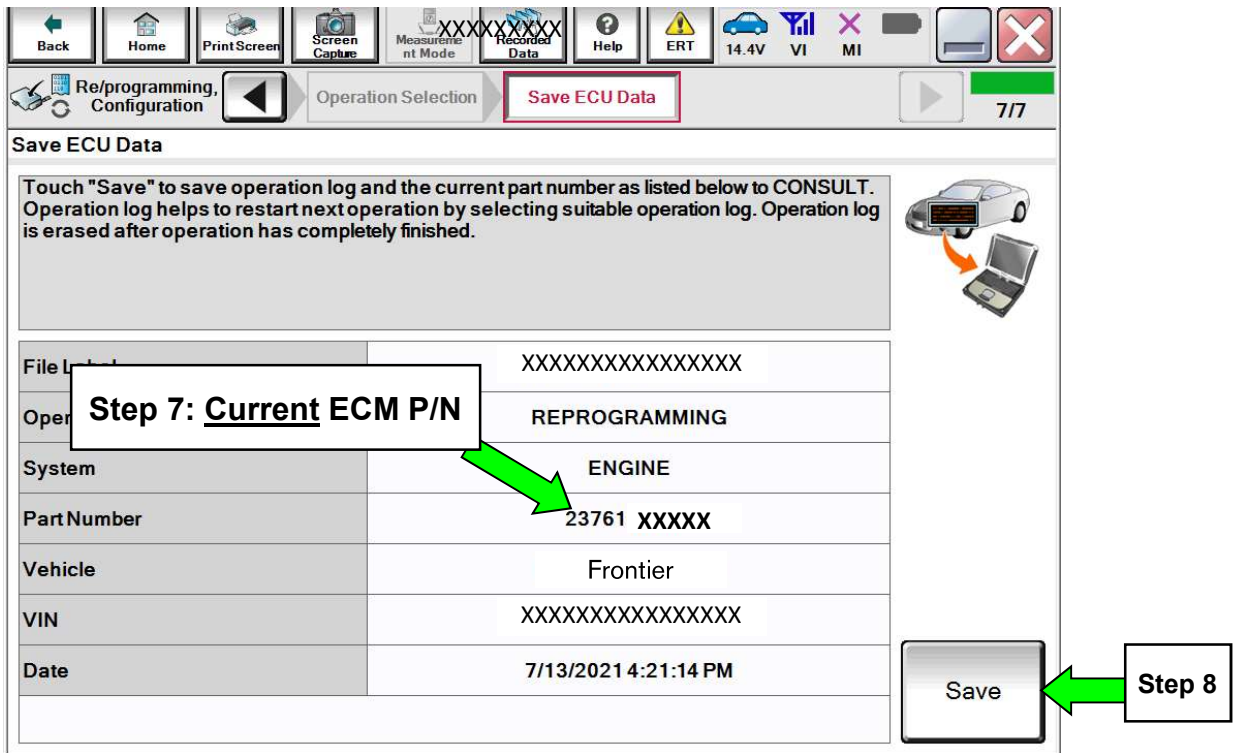

Figure 3
6. Follow the on-screen instructions and navigate the C-III plus to the screen in Figure 3.
7. Write the current ECM Part Number shown in Figure 3 on the Repair Order.